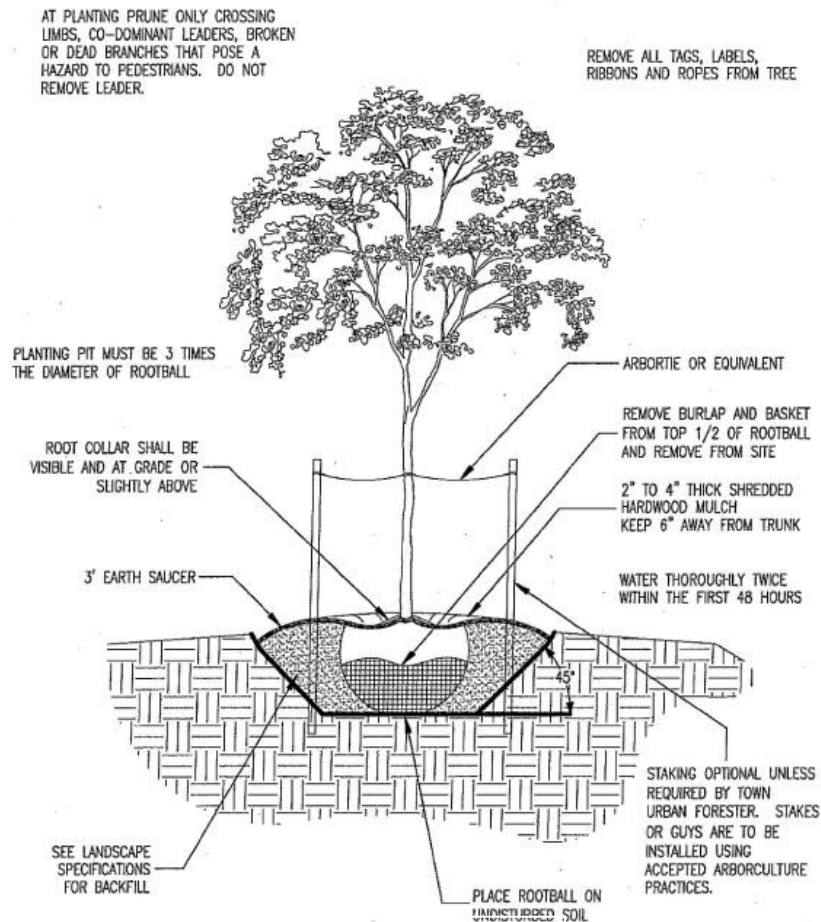

Figure 1. Proper plant installation procedure.
- _____ Mulch bed is 2-4 inches deep. Near, but not touching, the trunk (see Figures 1 & 2) per ANSI A300.6. PFM 12.0505.5F2
- _____ Plantings are established at the correct depth and width—root flare is exposed (Figures 1 & 2) per ANSI A300.6. PFM 12.03104E
- _____ Burlap and at least 1/2 of the wire basket are removed (if used) per ANSI A300.6 (see Figure 1). PFM 12.0505.3